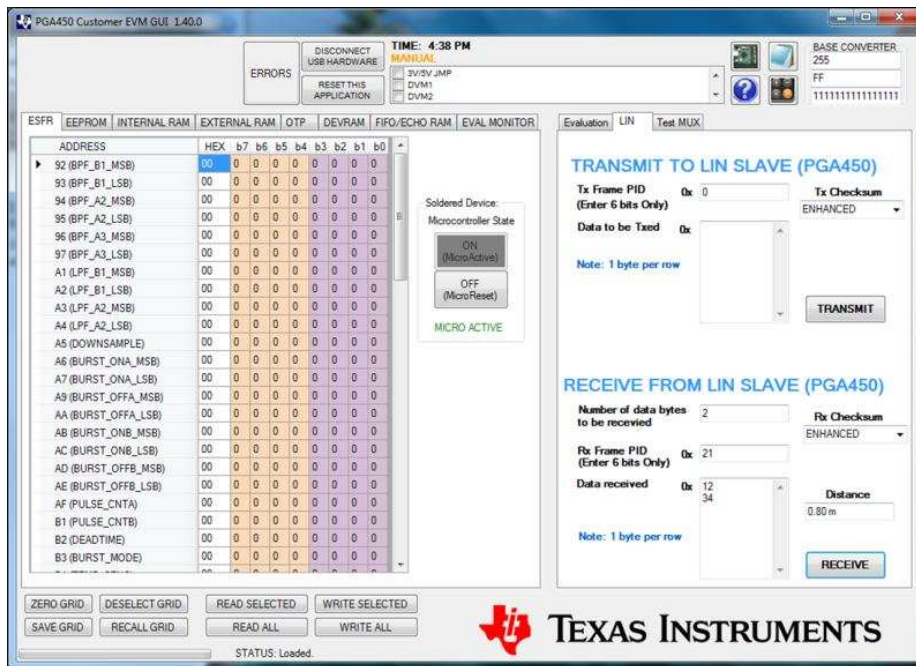

Figure 9. LIN Receive Command Verifying Communication
Step 6. Send a LIN transmission by clicking the *RECEIVE* button with a PID = 21 and the number of bytes to be received = 2. As shown in Figure 9, 0x1234 should be received, verifying that the LIN communication is working.